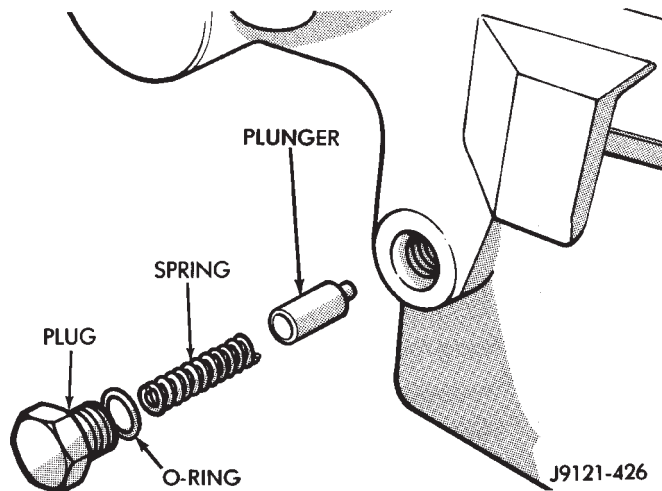

Fig. 67 Detent Pin, Spring And Plug Installation
(47) Install plug in lockpin access hole.
(48) Install transfer case shift lever and attaching nut. Tighten nut to 30 N·m (22 ft. lbs.) torque.
(49) Install detent plunger, detent spring and detent plug in case (Fig. 67).